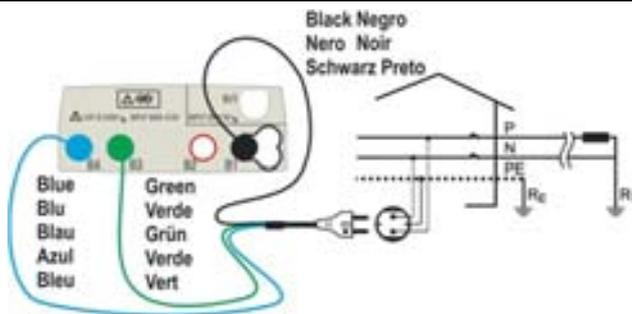
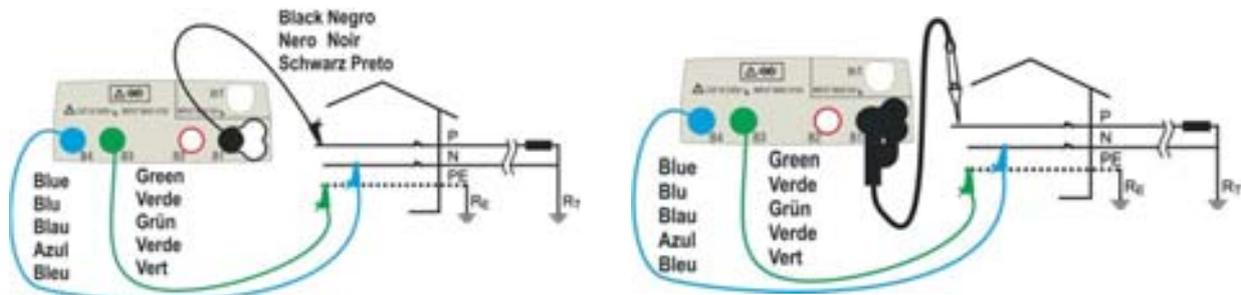
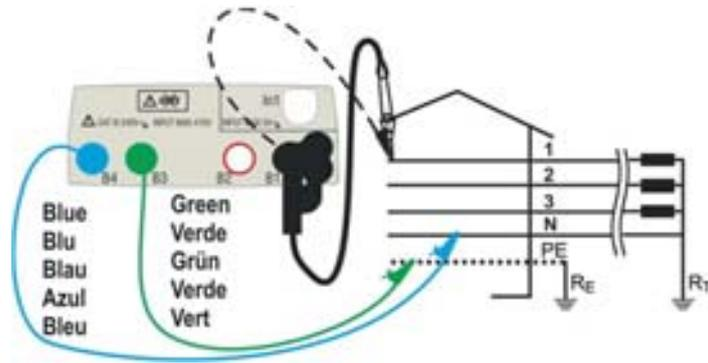
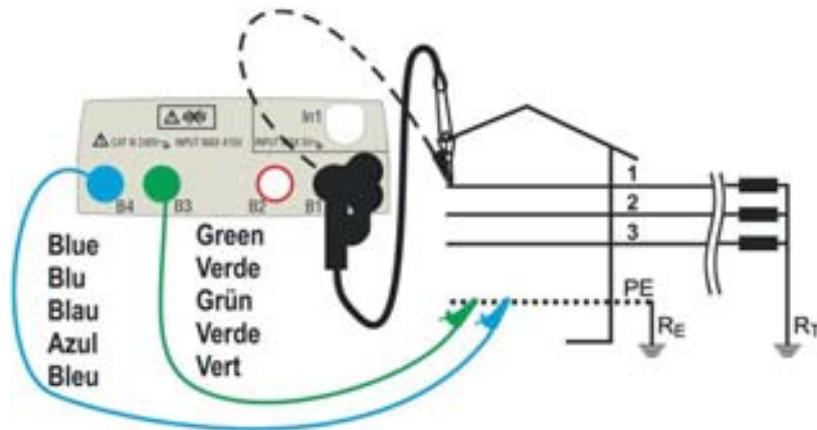

Fig. 18: P-N/P-PE measure for single-phase 230V systems with shuko plug
Fig. 19: P-N/P-PE measure for single-phase/two-phase 230V systems with cables and remote lead
Fig. 20: P-N/P-PE measurement for 400V+N+PE three-phase systems by means of single cables and remote lead
Fig. 22: P-PE/P-N measurement for 400V + PE (no N) systems by means of single cables and remote lead
4. Perform the preliminary calibration of the test leads as described in § 6.4.2. Connect the shuko plug, the alligator clips or the remote lead to the electrical mains according to Fig. 18, Fig. 19, Fig. 20 and Fig. 22.
4. If possible, disconnect all loads connected downstream of the measured point, as the impedance of these users could distort the test results. Perform the preliminary calibration of the test leads as described in § 6.4.2 Connect the shuko plug, the alligator clips or the remote lead to the electrical mains according to Fig. 18, Fig. 19, Fig. 20 and Fig. 22 in the nearest possible point to the protection device